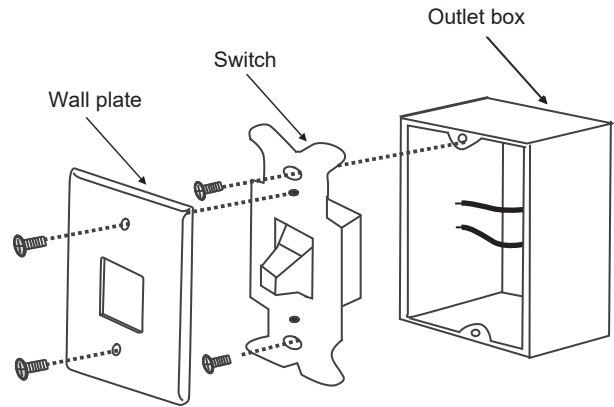

Figure 16
- a. Remove the existing wall plate and the old switch from the wall outlet box. Wire nut the BLACK leads (hot) together and push back inside the outlet box. (Fig. 16)